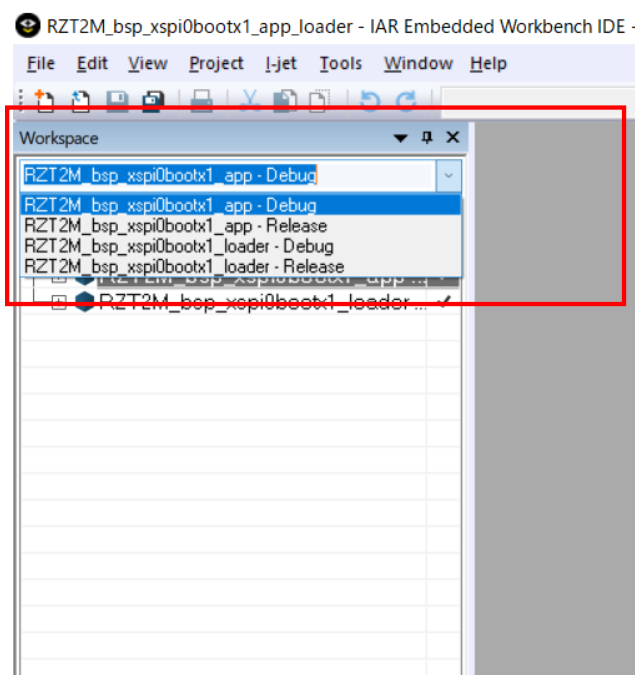

Figure 5.1 Project selection
2. Select "RZ/T2M\_bsp\_xspi0boot1\_app" project in Workspace box as Figure 5.1.